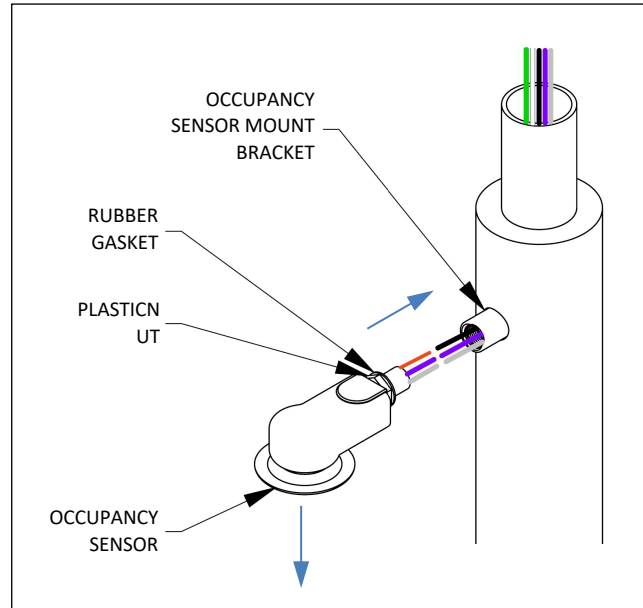

Fig.4 – Install optional occupancy sensor
3. Thread the occupancy sensor onto the mount bracket until snug, with the sensor aligned with base of the pole, see Fig. 4.